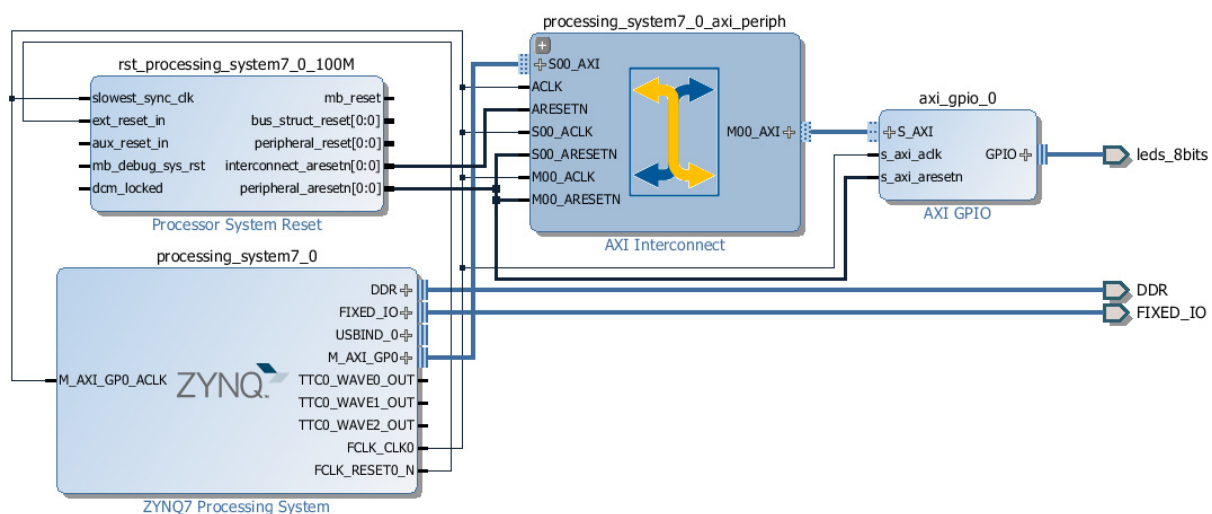

Figure 1.17: Zynq Processor System
- (i) Click the *Regenerate Layout*  button to tidy up the design schematic. Your complete design should resemble Figure 1.17.
The positions of the individual IP blocks in your design may vary slightly from Figure 1.17, but the blocks and their connections should be the same.